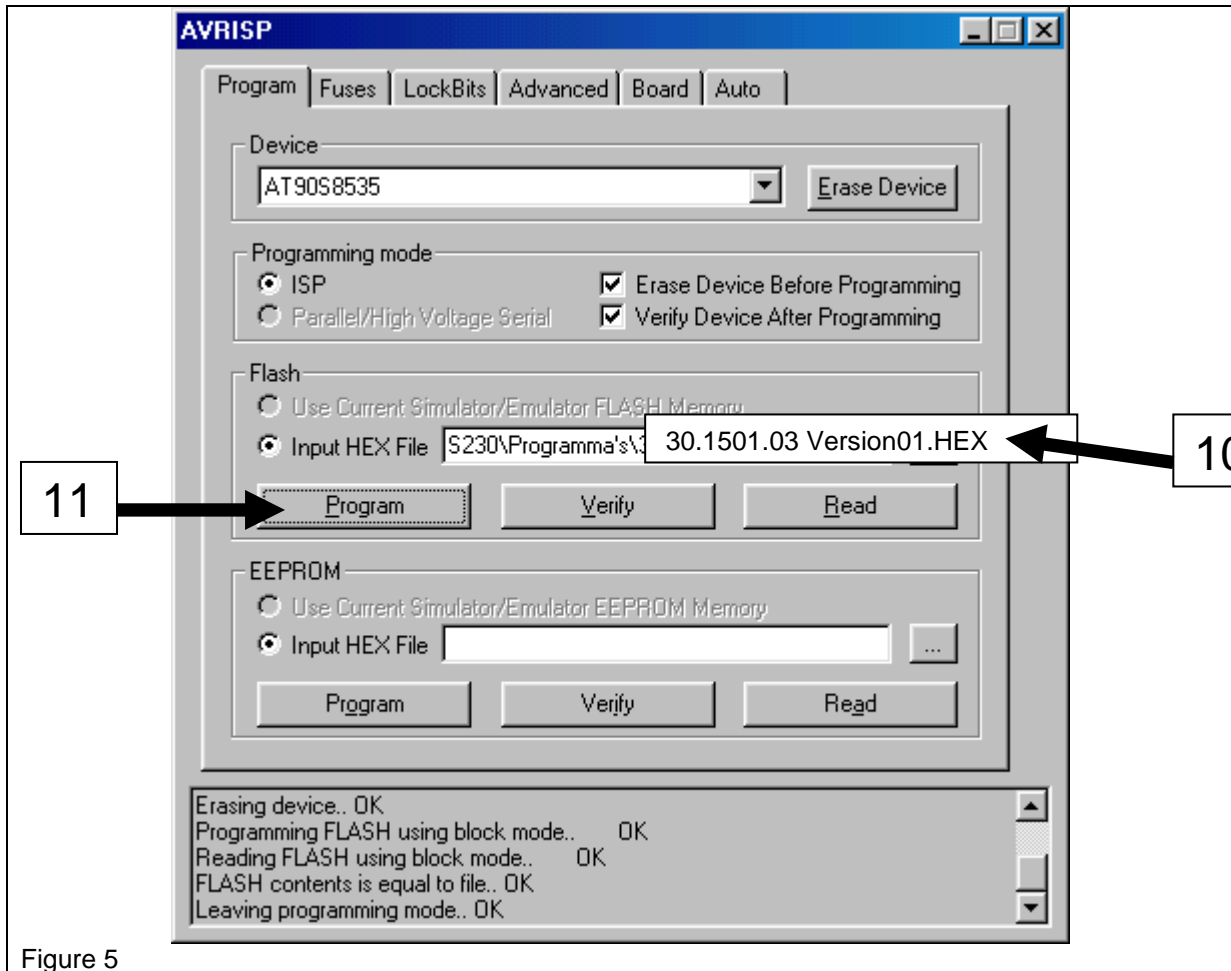

Figure 5
10. Select the FILE to transfer (301501.03 RP-27.hex) (Ref 10 Figure 5)
Leaving programming mode OK (Ref 11 Figure 5)